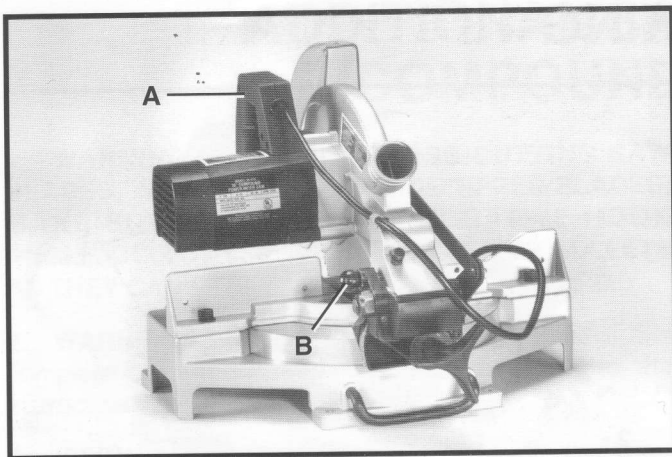

Fig. 6
1. Push down on switch handle (A) Fig. 6, and pull out cuttinghead lock knob (B).